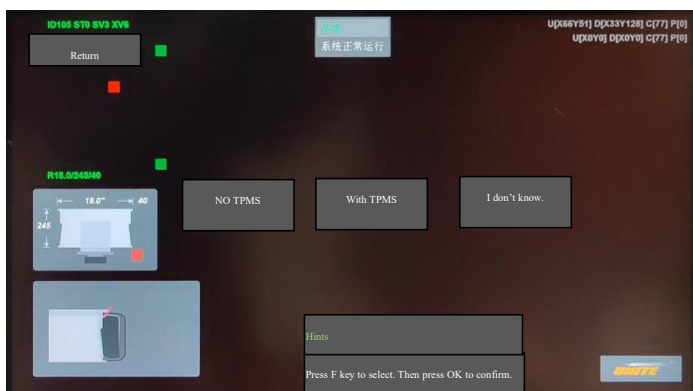

Figure 19
Press (F) to select the tyre type and then press (START) to confirm.(Figure 19)